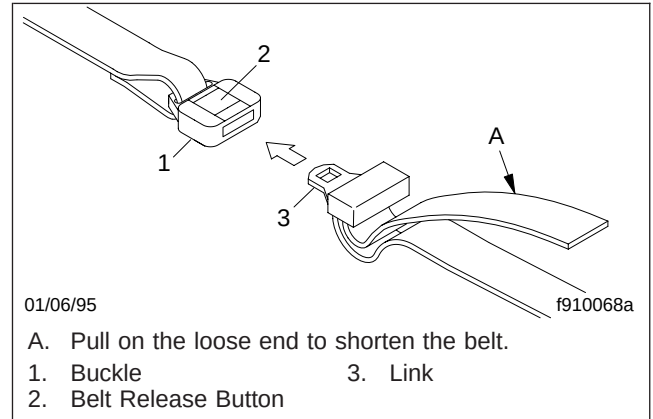

Fig. 5.12, Bunk Restraint Adjustment
3. After the belt is connected, shorten it by pulling on the loose end until the belt is snug, but comfortable. Be sure the belts are not twisted. See Fig. 5.12.